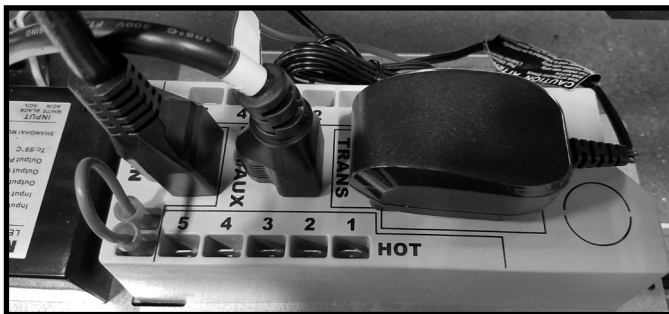

Figure 8.2 Junction Box Detail
4. Remove the one screw that secures the junction box to the control tray panel. See Figure 8.2.